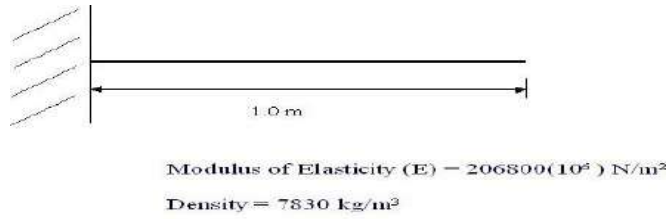

Figure 4
2. To determine the amplitude and frequency of a given beam components as shown in (Figure 4) using Finite Element Analysis based ANSYS/FEMAP software. Take Young's modulus  $2.068e11$ , Poisson's Ratio:  $0.3$ . (An)